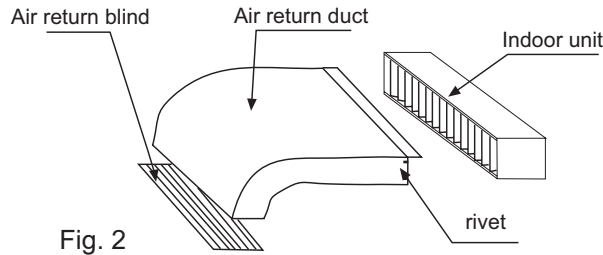

Fig. 2
1. Drill a hole in the wall and insert the connecting pipe and wire through a PVC wall-through tube purchased locally. The wall hole shall be with a outward down slope of at least 1/100. (See Figure 2)
- Use rivet to connect the air return duct on the air return inlet of the indoor unit, then connect the other end with the air return blind. As Fig. 2 shown.